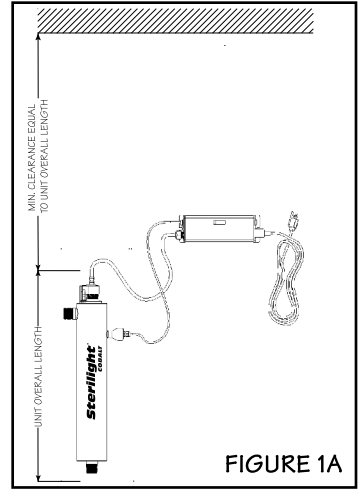

FIGURE 1A
2. Select a suitable location for the disinfection system and its related components. As it is recommended to install a ground fault protected circuit (GFCI), make sure that this is taken into consideration prior to any installation. The system can either be installed vertically (inlet port at the bottom) (Figure 1A), or horizontally (Figure 1B), however the vertical installation is the most preferred method. When selecting a mounting location, you must also leave enough space to allow for the removal of the UV lamp and/or quartz sleeve (typically leave a space equal to the size of the reactor chamber itself). *(Note: Installation drawings show Cobalt "PLUS" system with UV sensor for representation purpose only)*